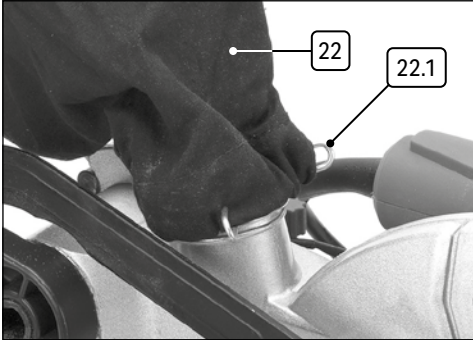

Fig. 8
6.9 Dust Extraction – Figs.8 – 9
Stock No.83677 (Fig.8):